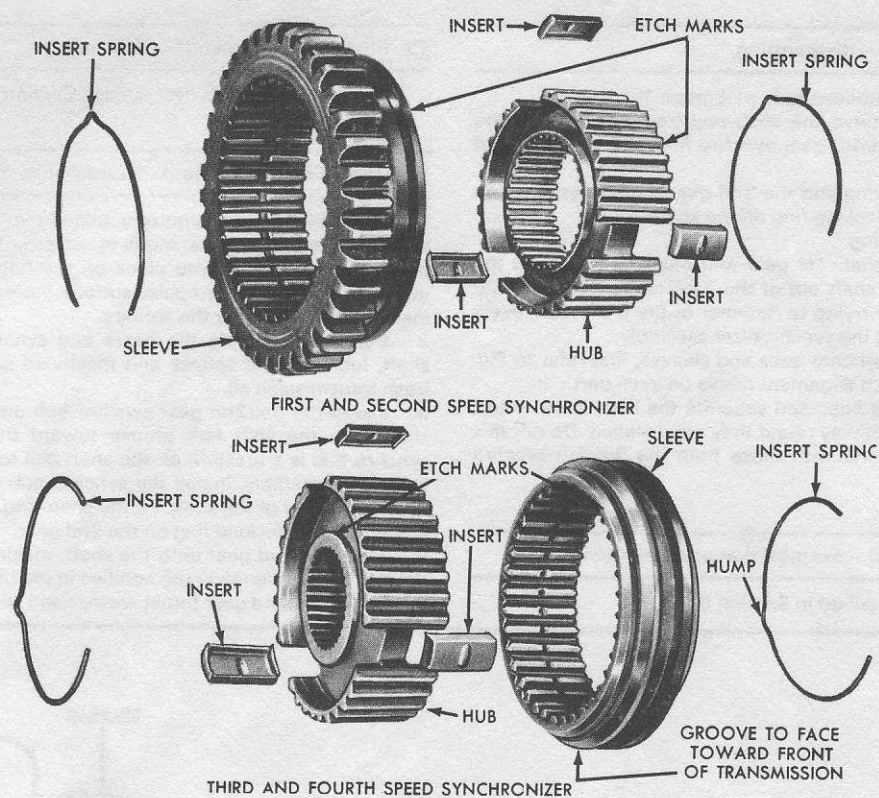

Fig. 6.29 Dismantling the synchronizers (4-speed) (Sec. 15)
- 6 When dismantling the synchro hubs and sleeves, first refer to Fig. 6.29 and etch or lightly punch alignment marks on each part.